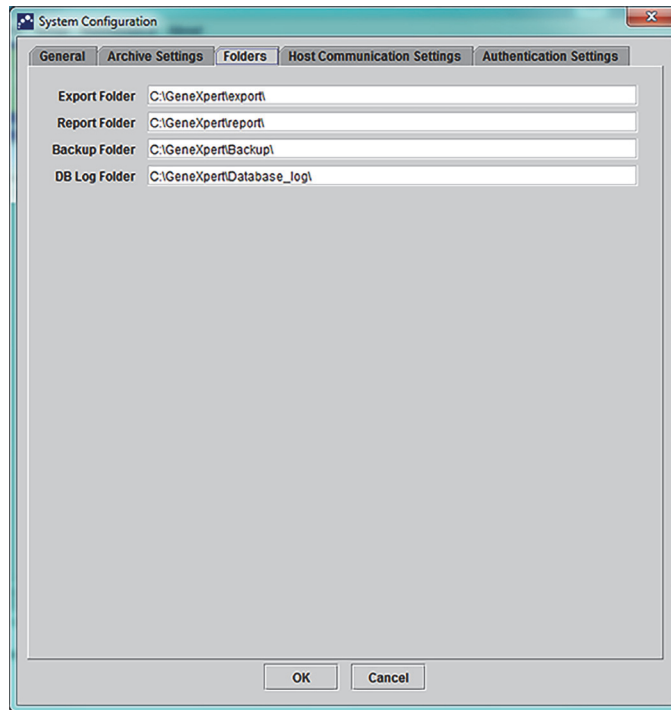

Figure 2-42. System Configuration Dialog Box (Folders Tab)
2. Click the **Folders** tab. The **Folders** tab appears. See Figure 2-42.